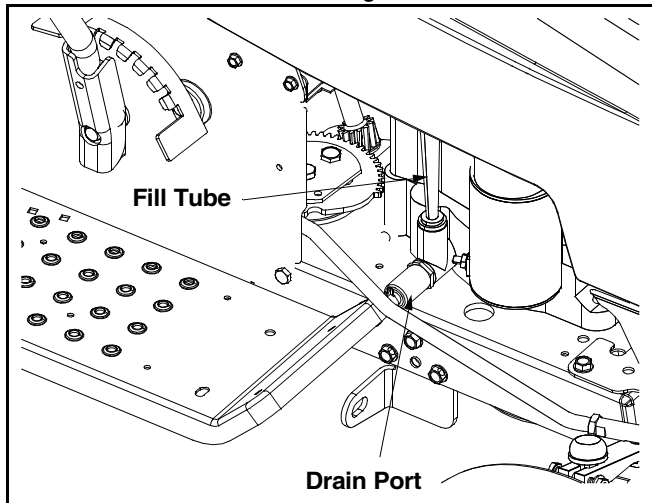

Figure 22
- Unscrew the oil fill cap and remove the dipstick from the oil fill tube. See Figure 22.
- Pop open the protective cap on the end of the oil drain valve to expose the drain port. See Figure 22.